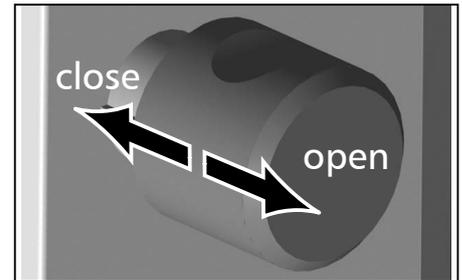

Fig. 12 Opening and closing the door
- ▶ To open the door, turn the handle to the right (Fig. 12).